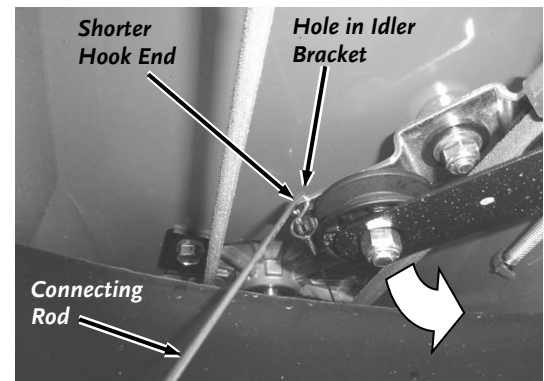

Figure 7
8. Insert the Shorter hook end of the Connecting Rod into the hole of the Idler Bracket, then pivot the Bracket as shown so the other end of the Connecting Rod can be positioned next to the Secondary Brake Assembly (**Figure 7**).